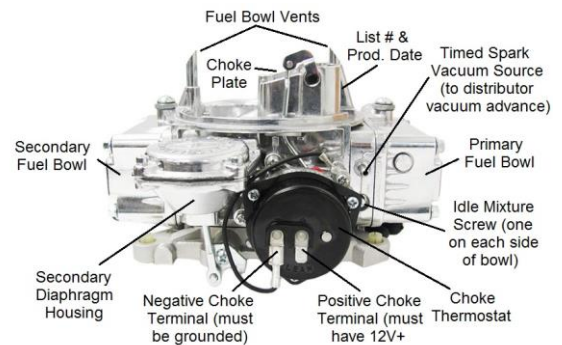

Figure 4
6. Connect the electric choke lead (supplied) to the positive terminal of the choke cap. Connect the other end to an **ignition-activated 12 volt** power source. Do not hook to the positive side of the ignition coil. **Hookup of this wire is NOT optional (Figure 4).**